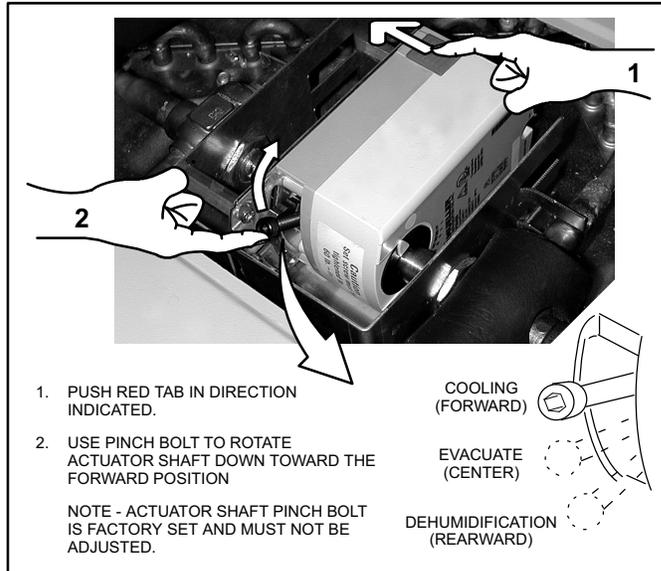

Figure 3. Set 3-Way Diverting Valve to Evacuate Position
Following the steps in figure 3, determine if the valve rotates mechanically through its full range. Make sure all mechanical connections are tight and properly aligned.
The 3-way diverting valve actuator shaft pinchbolt (see figure 3) is factory set and is not to be adjusted.
Prior to starting the outdoor unit for charging, be sure the 3-way valve is energized and in the “cooling” (forward) position (see figure 3).
1. Set the 3-way diverting valve actuator shaft to the center (evacuate) position for leak testing and evacuation (see figure 3).
*NOTE - Prior to starting the outdoor unit for charging, set the thermostat to call for cooling (dehumidification OFF). It will take about 90 seconds for the 3-way diverting valve to energize and shift to the cooling position. To ensure that the 3-way diverting valve is energized and in the “cooling” (forward) position, observe the position of the 3-way diverting valve actuator shaft pinch bolt in figure 3; if properly shifted, the pinch bolt will be in the forward position.*